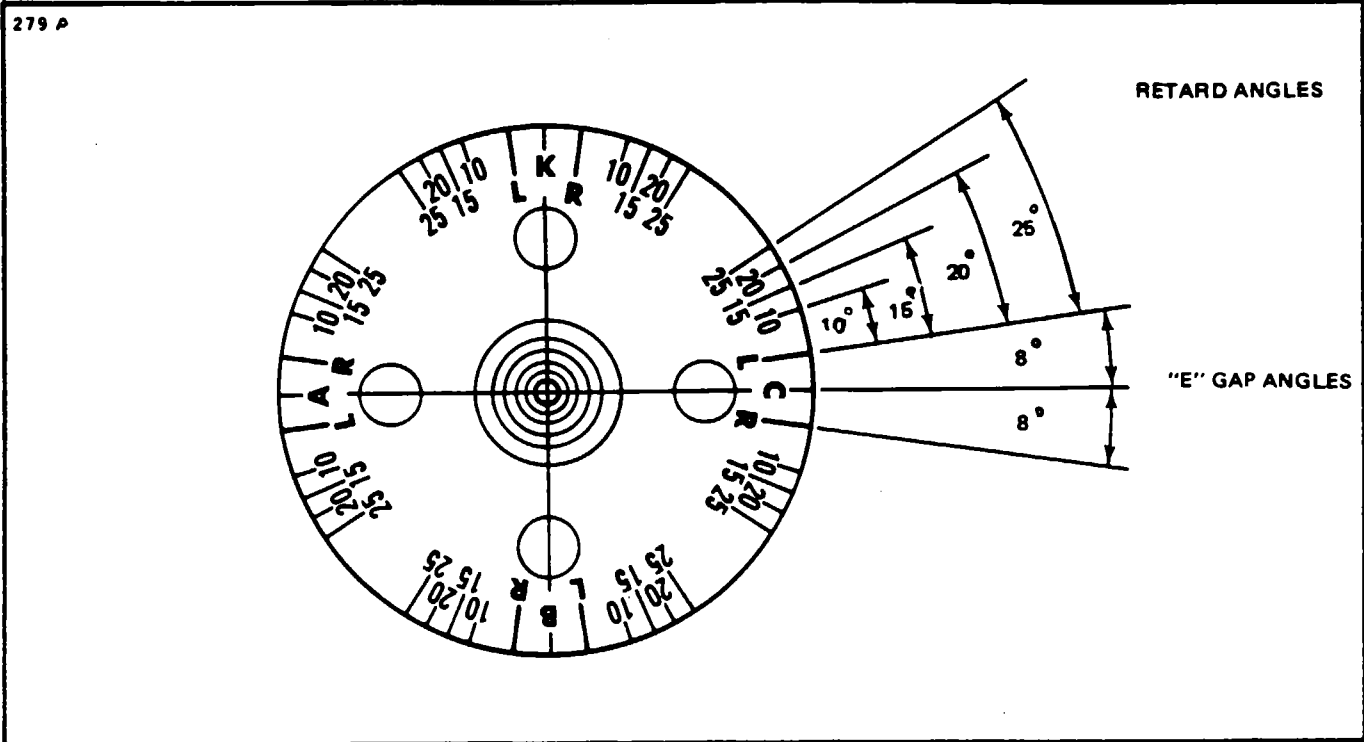

Figure 8-16. Timing Marks on Magneto Rotor (Present)
d. The magnetos incorporate a built-in pointer and a degree wheel with sufficient reference to assist the mechanic in magneto timing procedures. Printed upon the rotating magnet are marks to indicate magneto neutral and magneto "E" gap (8°). (Refer to Figures 8-16 or 8-17.) Also included are retard angle references of 15, 20 and 25 degrees. These marks are set up for either clockwise (R) or counterclockwise (L) rotation of the magneto as viewed from the magneto drive end. The timing tooth of each large distributor gear is marked with red paint. (Refer to Figure 8-18.)